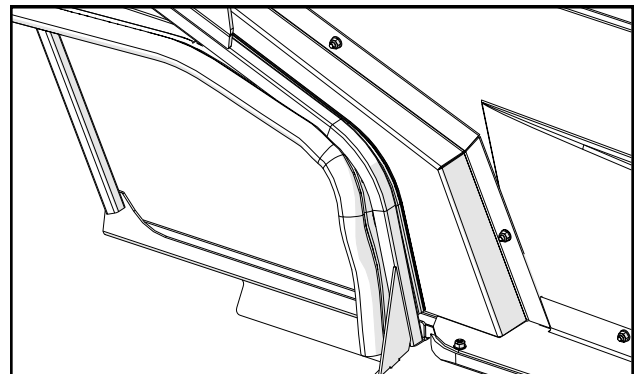

Fig. 2.4 (re-install rubber - Drive only)
**2.4** Per figure 2.4, re-install contour rubber removed on Step 2.1. If needed, remove the excess rubber on the rear leg side of the left assembly. Repeat on the right side.